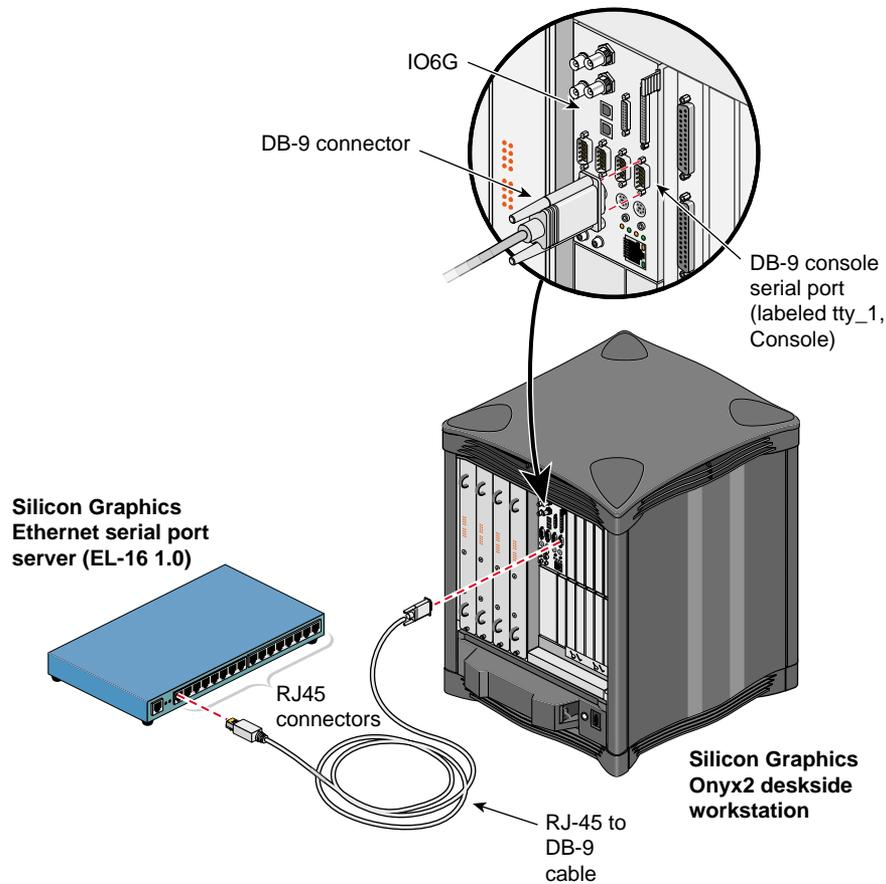

Figure 2-39 Connecting the Serial Port Server to the tty_1, Console Connector
5. Connect the RJ-45 end of the RJ-45 to DB-9 serial cable to one of the RJ-45 serial jacks on the Silicon Graphics EL serial port server. Connect the DB-9 connector to the Silicon Graphics Onyx2 deskside workstation serial port jack labeled "tty_1, Console." See Figure 2-39.